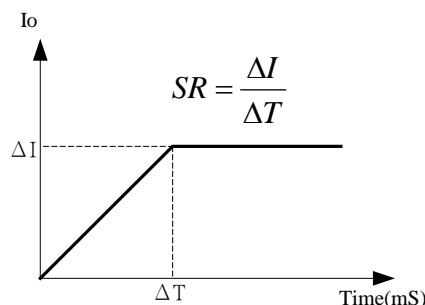

Figure 3-23
2. Use the numeric keys (**0** - **9**) or the “Rotary” () knob to set the value. The output current slew rate of the DC Power Supply is set as shown in Figure 3-23. The maximum input Slew Rate is 0.1A/mS and the minimum is 0.003A/mS. If the input is larger than 0.3A/mS, the current Slew Rate will be set to INF. and will change with the maximum slew rate (near infinite). The output of the DC Power Supply will follow the rising slew rate to the set output current.